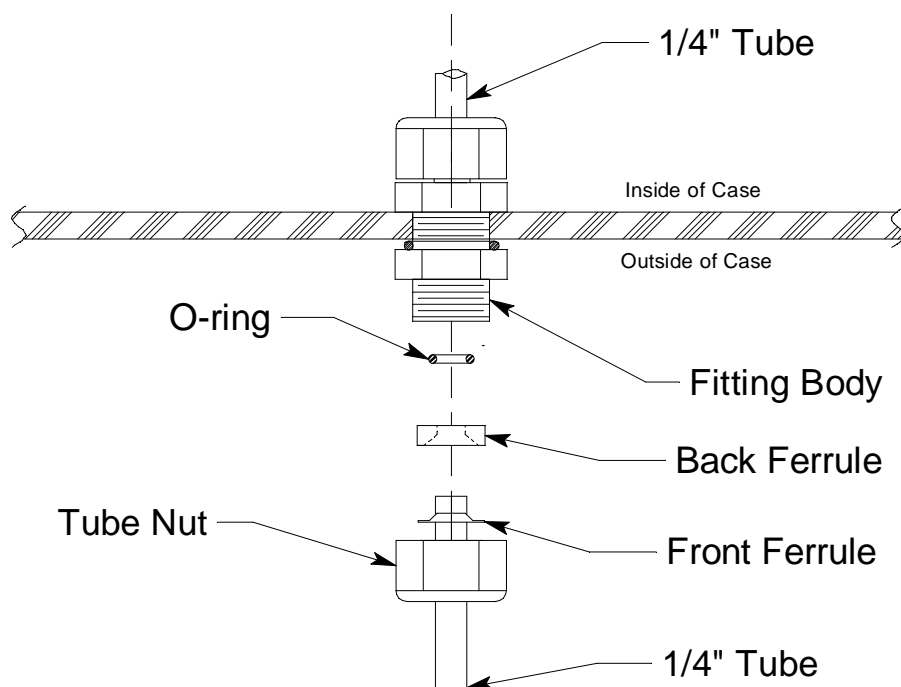

Figure 6: Inlet Fitting with Tubing Stub
4. Push the new tubing up through the inlet fitting tube nut and replace the ferrule set and the O-ring, if it came out, in the orientation shown in Figure 6.